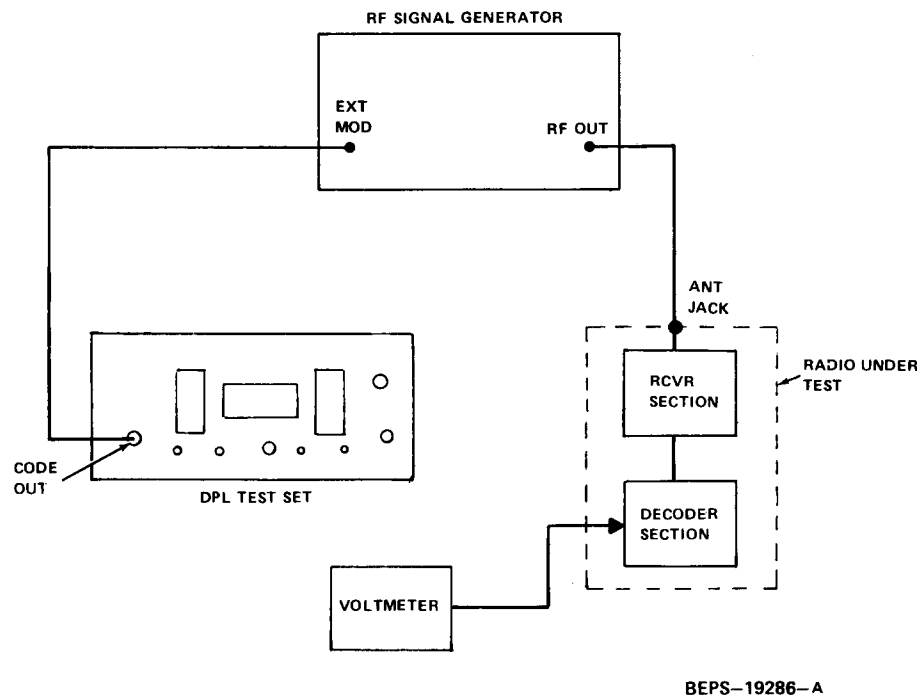

Figure 5. Decoder Test Set-Up
When testing a decoder in a radio set, the "Digital Private-Line" signal is not injected directly into the decoder under test, but as shown in Figure 5. The test set CODE OUT signal is used to externally modulate an FM signal generator. The signal generator injects a code modulated carrier signal into the receiver of the radio under test. The receiver's recovered audio signal is the "Digital Private-Line" code signal, which is applied to the decoder under test. This test set-up permits easier setting of the code level to more accurately simulate actual operating conditions; it also includes the receiver in the test. Some
Step 1. Connect equipment as shown in Figure 5. Connect the CODE OUT jack to the external modulation jack of the rf signal generator. Connect the rf output of the signal generator to the antenna jack of the receiver under test. Set the signal generator to the exact carrier frequency of the receiver and adjust 1000 uV level. The radio PL switch should be ON (microphone on-hook on some radios).